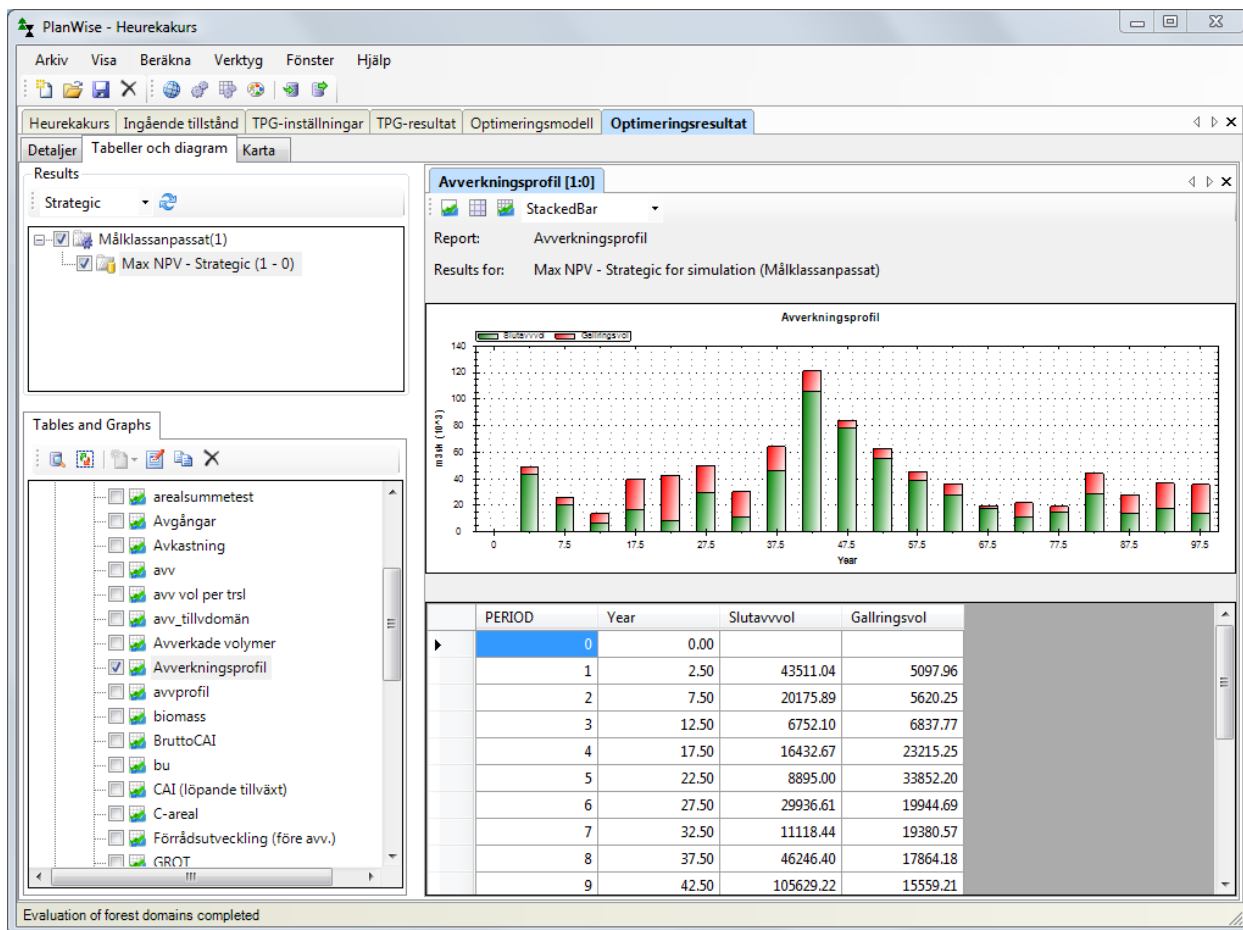

Figure 11
- Select the new report, right click and select the View checked graphs/reports and you will see something like in figure 11.